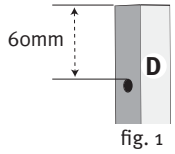
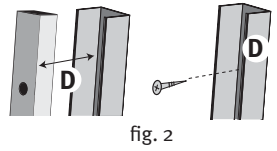

fig. 1
fig. 2
1. Cut End Rails (D) 4mm shorter than total height of Screen. Allow minimum 60mm from pivot hole to end of rail for louver blade to function (fig.1).
2. Cut Top/Bottom Capping (C) to total width of Screen.
3. Fix End Rail (D) to side openings. Rail pulls apart for drilling and fixing, so screws are hidden. (fig.2)
4. Clip inner section of End Rail (D) back into fixed portion of rail. (fig.2)